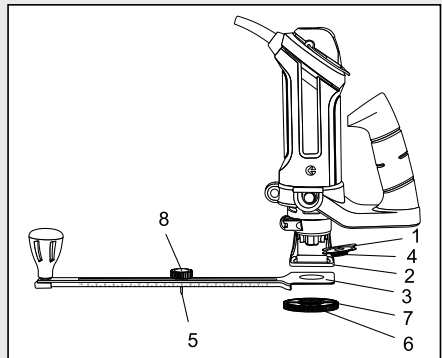

Fig. 12
2. Insert the externally threaded circle cutting guide mounting insert (1) into the bottom of the freehand cutting guide (2) (Fig. 12).
3. Place the circle cutting guide mounting hole (3) over the externally threaded circle cutting guide mounting insert (4).
**NOTE:** Make sure pointed pivot pin (5) is pointing away from the tool.